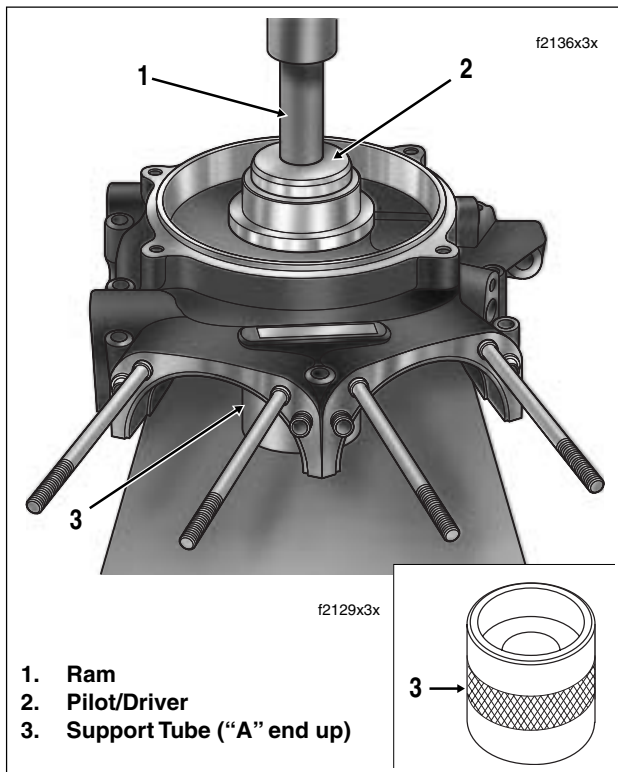

Figure 3-128. Remove Sprocket Shaft Bearing
9. With the outboard side of the left crankcase half facing upward, position sprocket shaft bearing bore over support tube. See Figure 3-128.